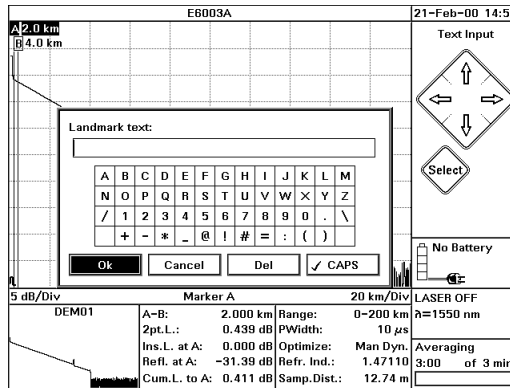

Figure 36 Landmark text box
4 Select the submap entry <LANDMARK><ADD/MOD.>. You see a screen keyboard asking you to enter the Landmark text (Figure 36).
- 4 You see a screen keyboard, similar to Figure 36.